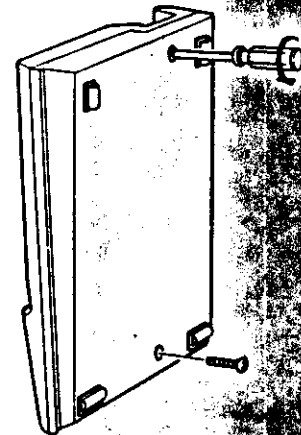

Fig. 15
- 2 Turn the telephone over and remove two screws from the bottom of the telephone (Fig.15).
- 7 Mount the base of the telephone carefully on its top and fasten together with screws at two locations (Fig.15).
| 1 | Turn the DSS/BLF telephone set over and remove two screws from the bottom of the telephone set (Fig.15 of Section 4.1). |
| 5 | Mount the base of the telephone carefully on its top and fasten together with screws at two locations (Fig.15 of Section 4.1). |